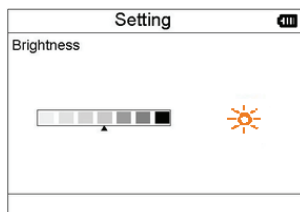

Figure 3-26 Brightness Setting
1. On system setting screen, select "Brightness" to enter brightness setting screen, as shown in Figure 3-26.